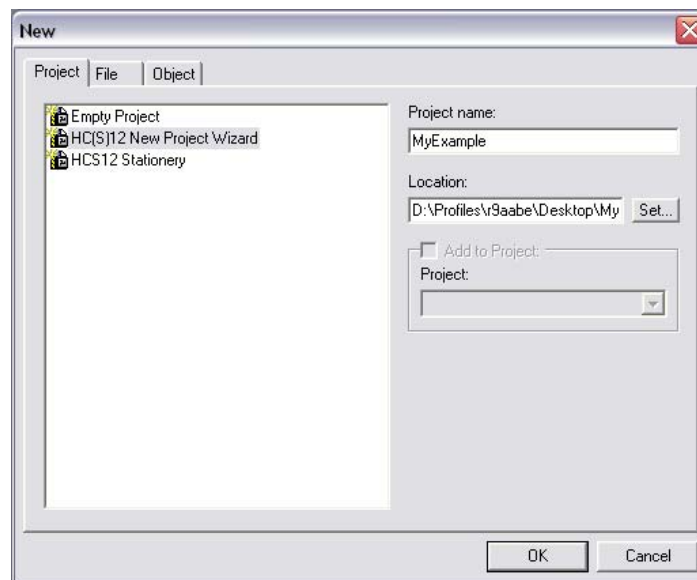

Figure 7. New Window
- a. From IDE main menu bar, select: File> New; a new window will appear (see Figure 7)